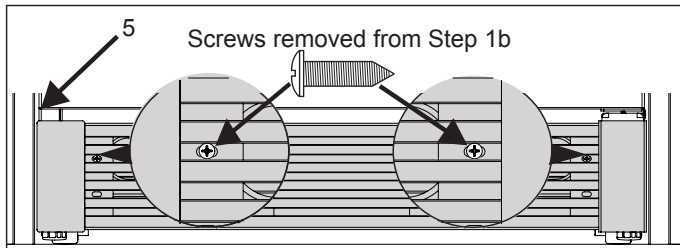

Figure 18
16. a. **(Single Unit)** Attach the kick plate to the cabinet with 2 screws. (See Figure 18.)